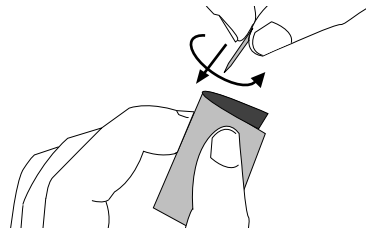

Figure 78
4. Lightly polish the electrode. Be sure to apply only light pressure so as not to alter the shape of the electrode tip (Figure 78).